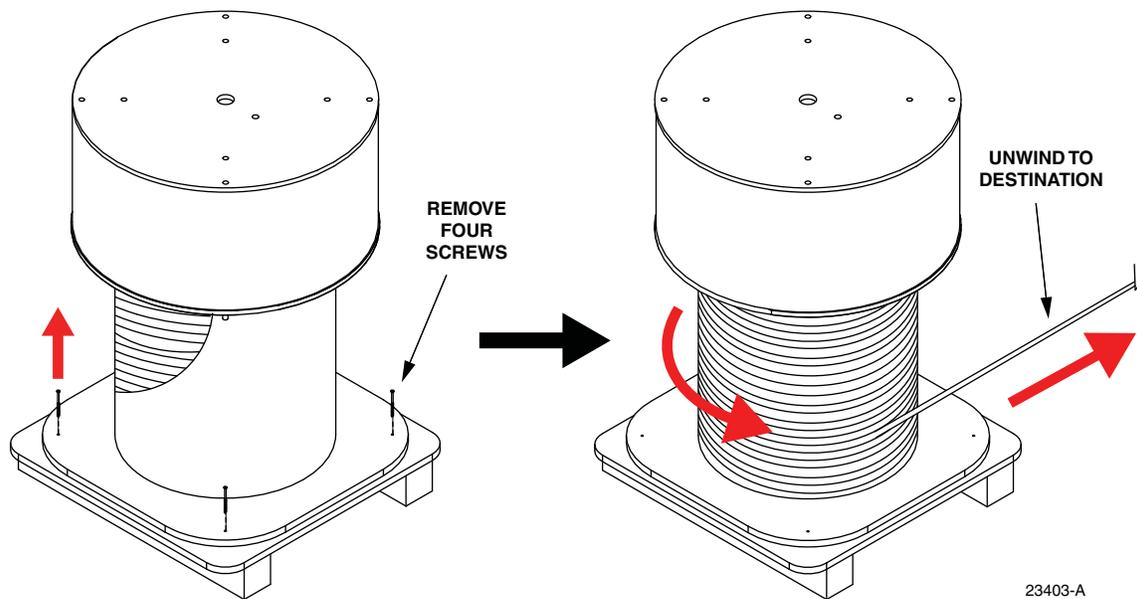

Figure 5. Removing Base Screws and Unwinding Cable
3. Remove the four screws at the base of the spool as shown in Figure 5.
4. Unwind the IFC cable in a counterclockwise direction off the spool, as shown in Figure 5. As the cable is unwound, route it overhead or underfloor into the cable tray system per local practice.